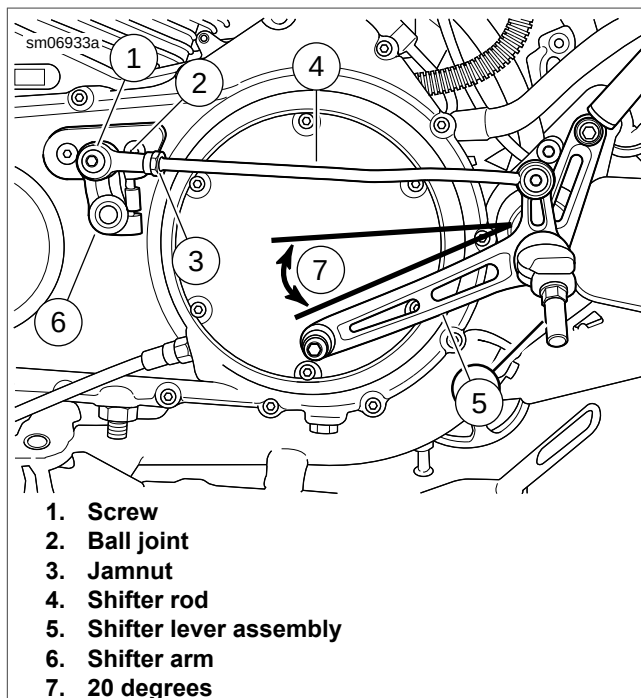

Figure 2-237. Adjusting Shift Pedal: XR 1200X
See Figure 2-237. Adjust shifter rod assembly (4) length until shifter lever (5) is at approximately 20 degrees from horizontal as shown in the figure.
1. Loosen jamnut (3) on front end of shifter rod.
2. Remove screw (1) securing ball joint (2) to shifter arm (6).
4. When angle of shift lever assembly is at 20 degrees, install screw (1). Tighten to 120-180 **in-lbs** (13.6-20.4 Nm).